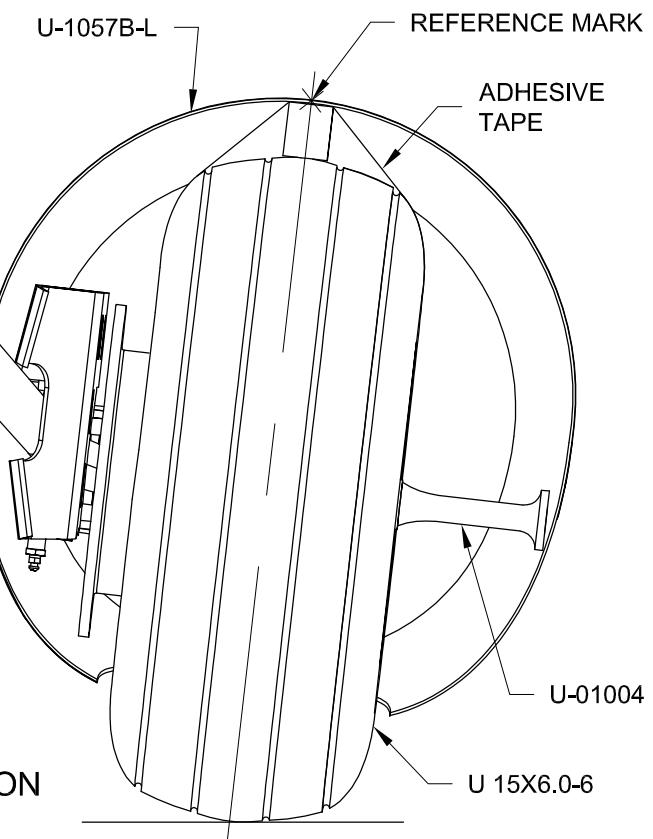

FIGURE 3:
Step 3: Align the U-1057B-L Wheel Fairing Rear in rotation to the tire by using the tire tread as an alignment guide as shown in Figure 3.